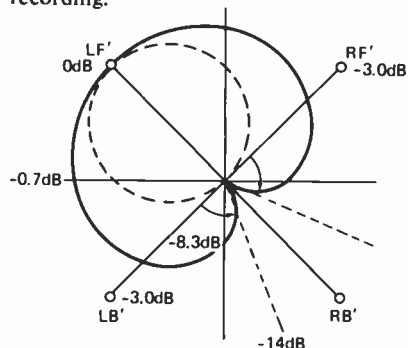

FIG. 10—CHANGE in sound pressure response created by variomatrix circuit.
In other words, if an LF signal in the original sound field is encoded by the QS system and then decoded by simple calculations, it will yield a sound pressure response pattern as shown by the solid line in Fig. 3. This indicates crosstalk of -3db in each of the two adjacent channels. The QS variomatrix circuit, however, varies the LB' matrix coefficient in the RB' direction to reduce the crosstalk of the LF signal in the LB' channel and eventually bring it down to $=\infty$ (0) at a point where the LB' matrix coefficient coincides with the RB' matrix coefficient. Simultaneously, the QS variomatrix circuit also controls the RF' matrix coefficient in the RB' direction, and eventually accomplishes a circular sound pressure response pattern (shown by the dotted line in Fig. 10) that is devoid of any crosstalk, just as in the reproduction of a discrete 4-channel tape recording.